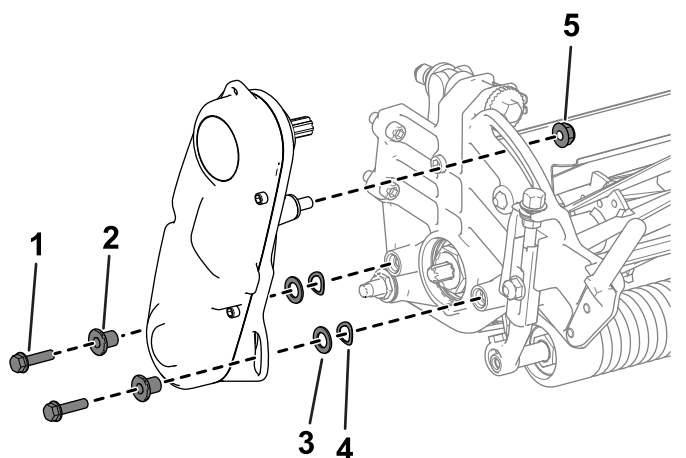

Figure 3
- A. Remove the hardware that secures the reel-drive assembly to the side plate (Figure 3).
- B. Remove the reel-drive assembly, flat washers, spring washers, and spacers from the side plate (Figure 3).